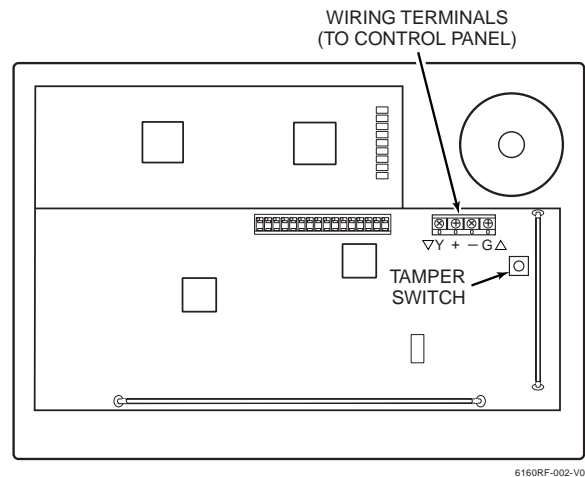

Figure 3 - 6160RF Wiring Details
4. Connect the power and data wires from the control panel to the terminals on the 6160RF as indicated Figure 3 and Table 1.